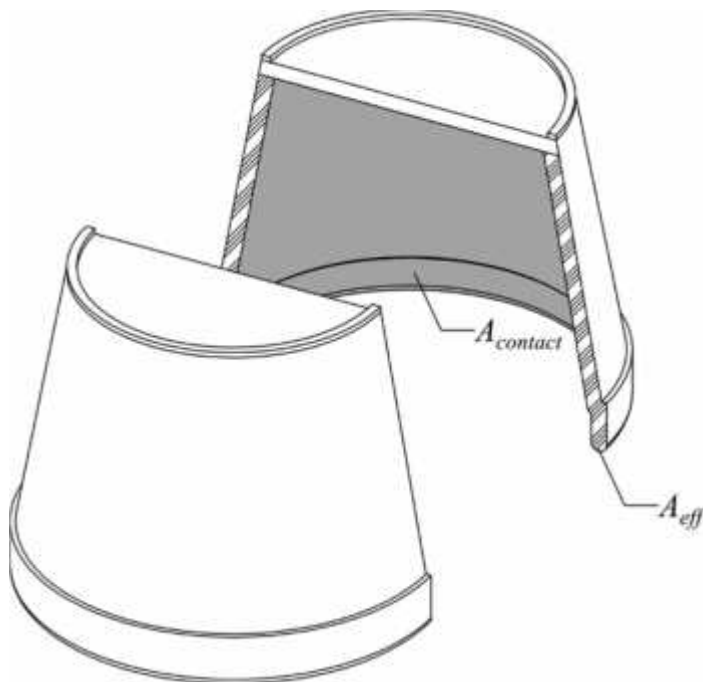

Fig. Q. 5 (b)
- (iii) Clearly explain how you will estimate the ejection force required to strip a cup (Fig. Q. 5(b)) molded from ABS off the mold core using both the concept of hoop stress and Rosato estimation. (6 Marks)